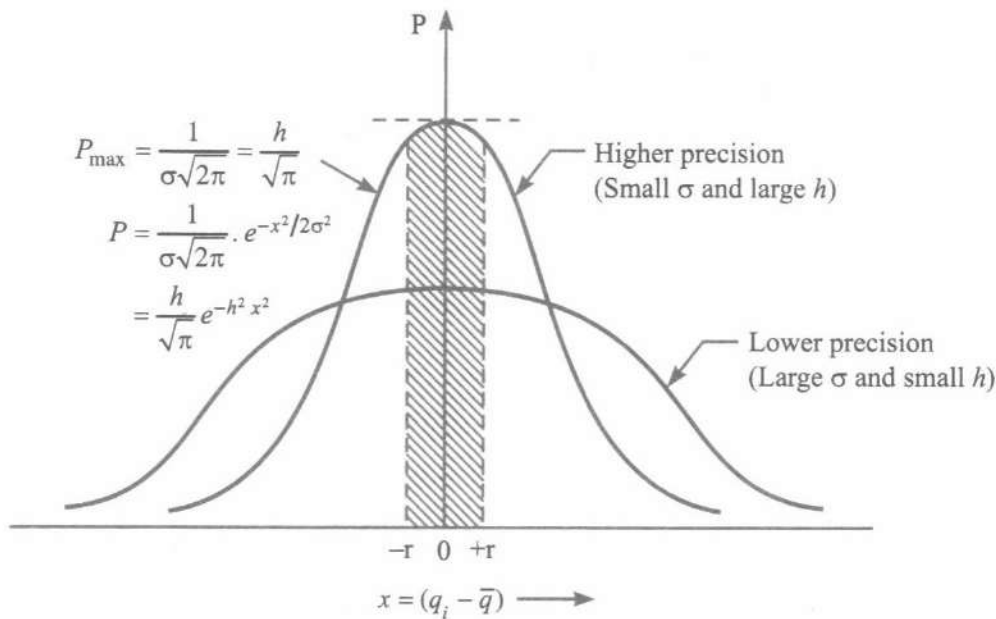

Fig. 3.2. Gaussian distribution curve.
Fig. 3.2. shows a Gaussian distribution curve in which  $P$  has been plotted as a function of  $x$ . The curve is symmetrical about the mean value and may be regarded as the limiting form of a histogram. The two values of standard deviation  $\sigma_1$  and  $\sigma_2$  ( $\sigma_1 > \sigma_2$ ) have been illustrated in the given figure. *Larger the value of  $\sigma$ , the flatter the curve and hence larger the expected error of all measurements.*
**Probable error :** Let us consider the two points  $-r$  and  $+r$  marked in Fig. 3.2. These points are so located that the area bounded by the curve, the X-axis and the ordinates erected at  $x = -r$  and  $x = +r$  is equal to half of the total area under the curve. That is half the deviations lie between  $x = \pm r$ . The location of the points  $r$  can be worked out as follows: